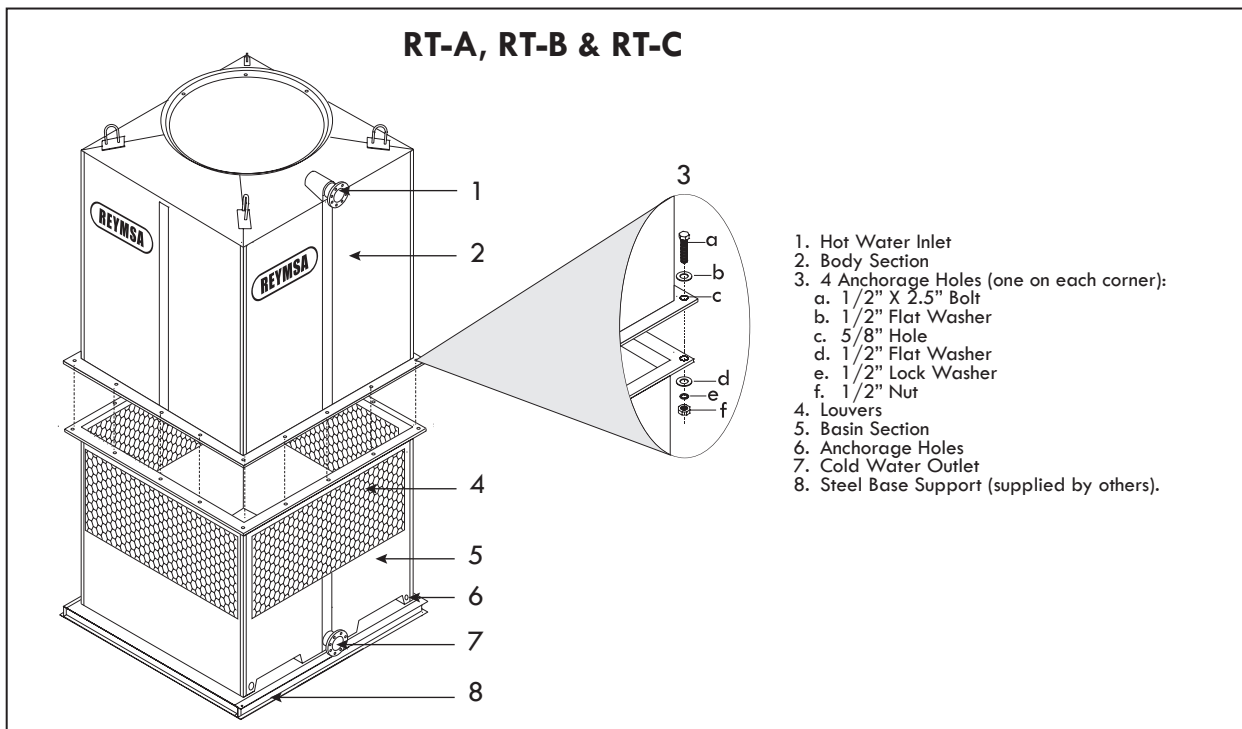

Figure A-7: Body and basin sections installation on RT-A, RT-B, and RT-C
- J.** Assemble the body section (Upper Body section for RT-D) with the basin section (Lower Body section for RT-D). The body section comes assembled with u-bolts for lifting; then using a crane assemble both parts, use a drift pin to align bolt holes as the sections are being set (See figure A-7 and A-10). Make sure that the hot water inlet, and the cold water outlet are on the same side of the Tower when assembled.